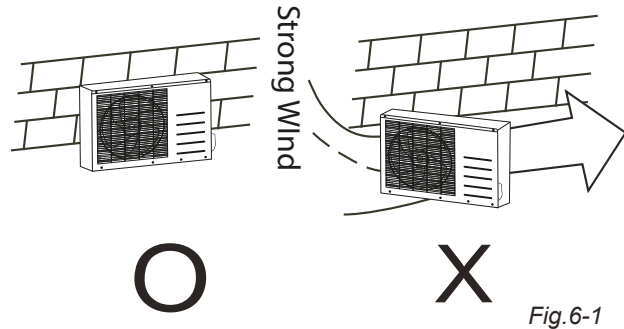

Fig. 6-1
- In the case that the installation place is exposed to strong wind such as a seaside, make sure the fan operating properly by putting the unit lengthwise along the wall or using a dust shield. (Refer to Fig. 6-1).